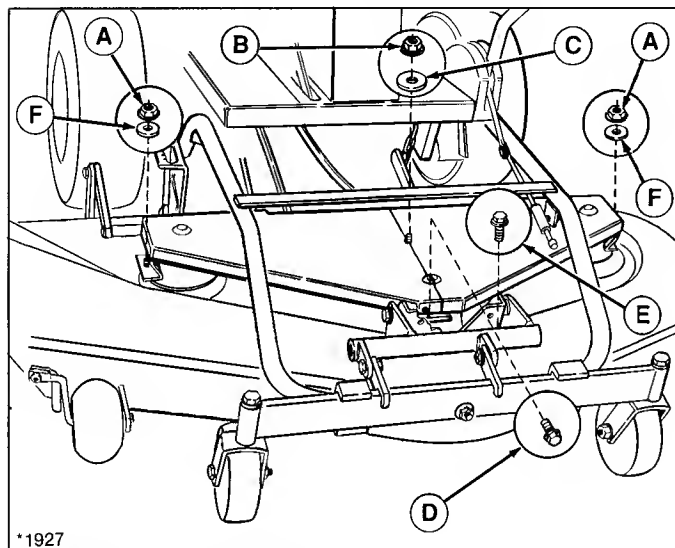

Figure 21. Belt Cover Removal
2. Remove hardware securing belt covers to mower deck. Refer to figure 21. Remove belt covers (belt diagram is located on underside of belt cover).